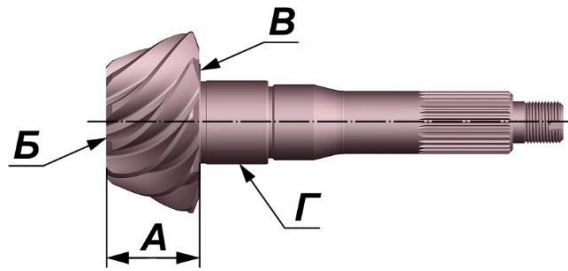

Fig. 3.44. Special-purpose mandrel #1
- install special mandrel #1 (Fig. 3.44) with the drive gear bearing inner races in the reduction case;